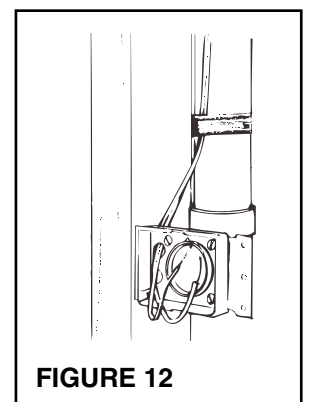

FIGURE 12
9. **Refer to Figure 12.** Low voltage wiring (Model 376) should be completed as tubing is installed. Tape wire to tubing to hold in place and insert through hole in inlet bracket.